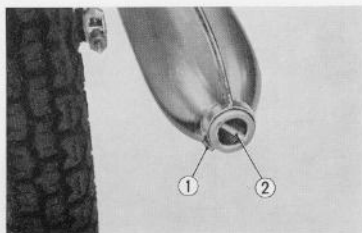

Fig. 5.33 Removing diffuser pipe
- Remove the diffuser pipe locking bolt ① and pull out the diffuser pipe ② (Fig. 5.33) (diffuser pipe not removable on USA export)